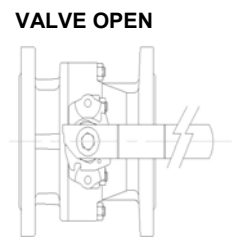

Fig. 1
- During the storing the valve must be fully open to avoid the of the tighten seats **fig. 1**